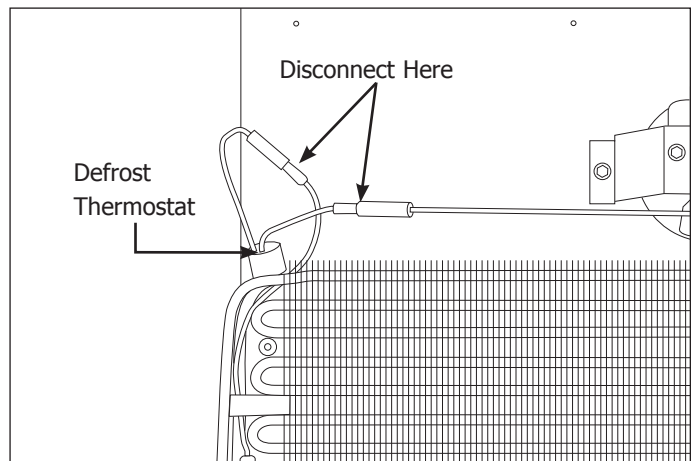

Figure 5-18. Defrost Thermostat Removal
4. Disconnect the defrost thermostat wire leads from the wire harness. (See Figure 5-18)